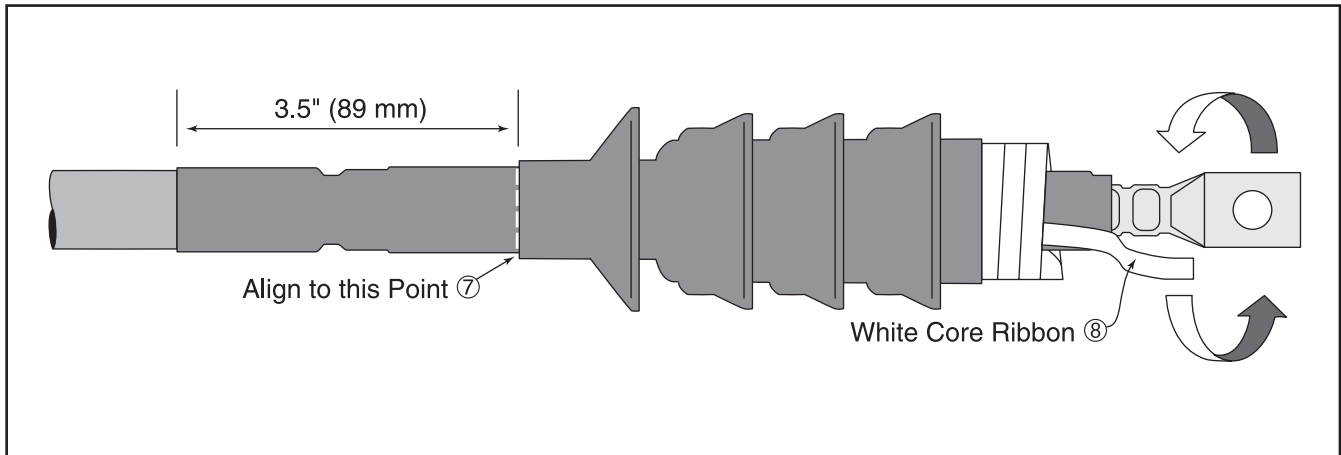

Figure 15
- A. Position skirted insulator over previously installed tubular termination as shown (Figure 15).
- B. Align skirted insulator body (not the core) to install 3.5" (89 mm) from base of tubular termination (⑦ Figure 15).
- C. Grasp the loose white core ribbon (⑧ Figure 15). Pull and unwind, counter clock-wise, around cable phase end.